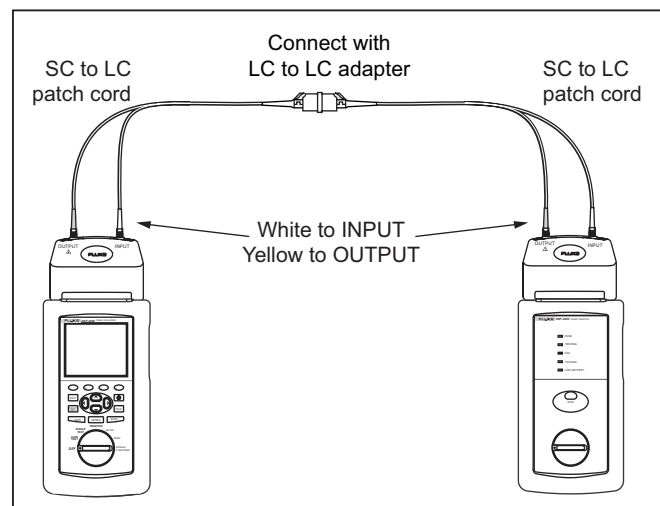

Figure 2. Reference Connections
2. Make the connections shown in Figure 2 for setting a reference.
1. Disconnect the reference connections shown in Figure 2 at the dual LC adapter, leaving the adapter connected to the patch cord on the main unit.